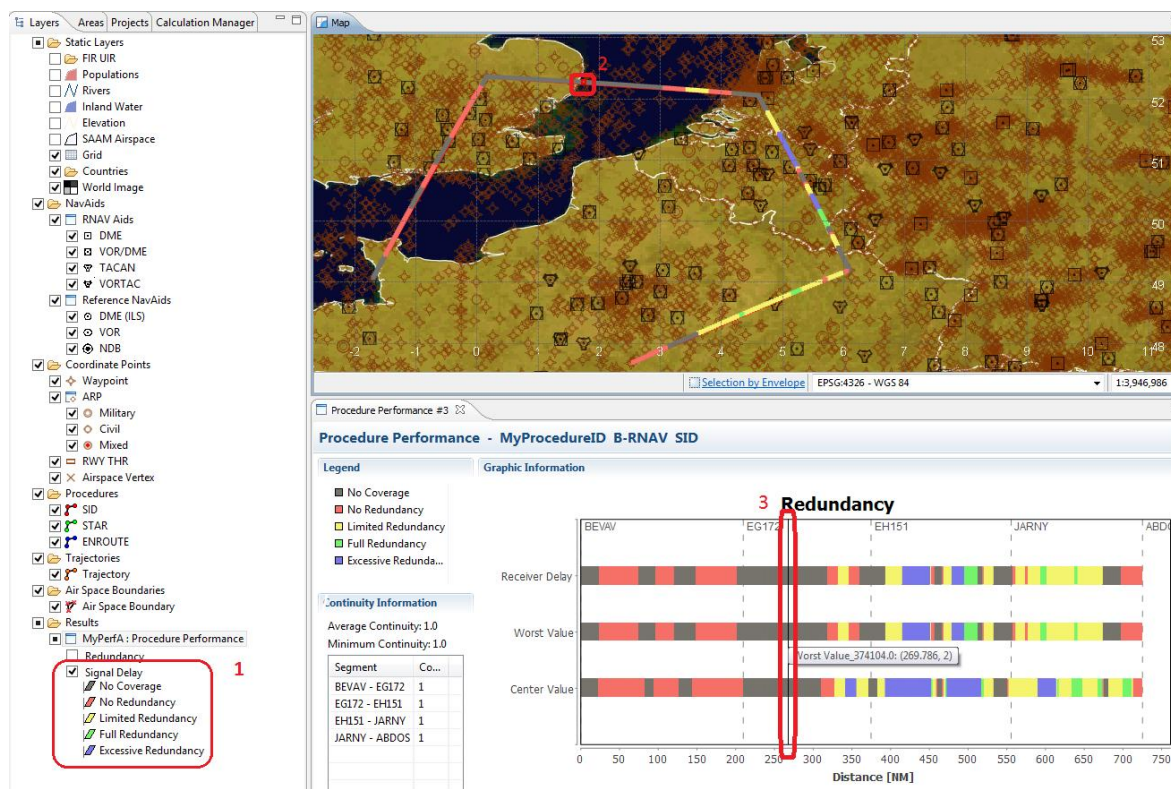

Figure 178: Signal Delay sample
This layer shows the signal receiver delay for the procedure. In Figure 178, notice the legend (1) with signal delay selected and the different types of coverage. Please note that for usability purposes, on the "Graphic Information" section, the redundancy bar (3) matches the part of the procedure that is displayed on the map (2).